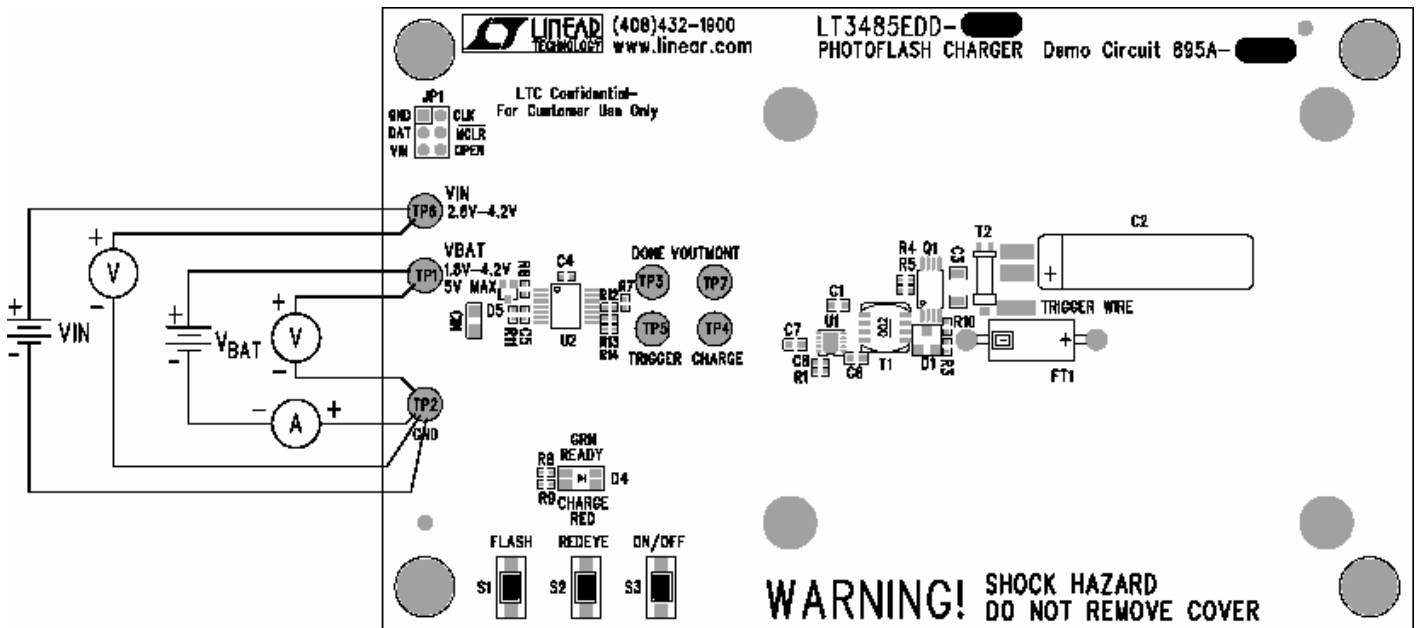

Figure 1. Proper Measurement Equipment Setup
Demonstration circuit 895 is easy to set up to evaluate the performance of the LT3485EDCB-x. Refer to Figure 1 for proper measurement equipment setup and follow the procedure below:
3. Connect the power supply to DC895, referring to the connection diagram given in Figure 1.